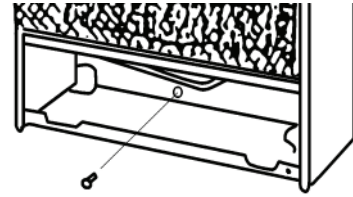

Figure 12 - Installing Bottom Mounting screw
1. Locate bottom mounting hole. This hole is near bottom on back panel of heater(see Figure 12).